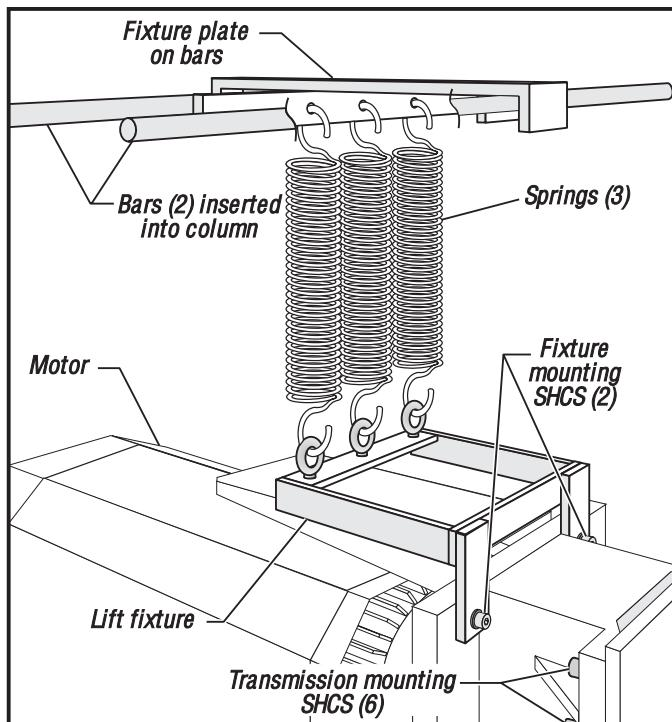

Figure 3-2. Belt tensioning fixture shown in place.
1. Place the lift fixture onto the transmission (Figure 3-2). Attach to the motor mounting plate with two SHCS.